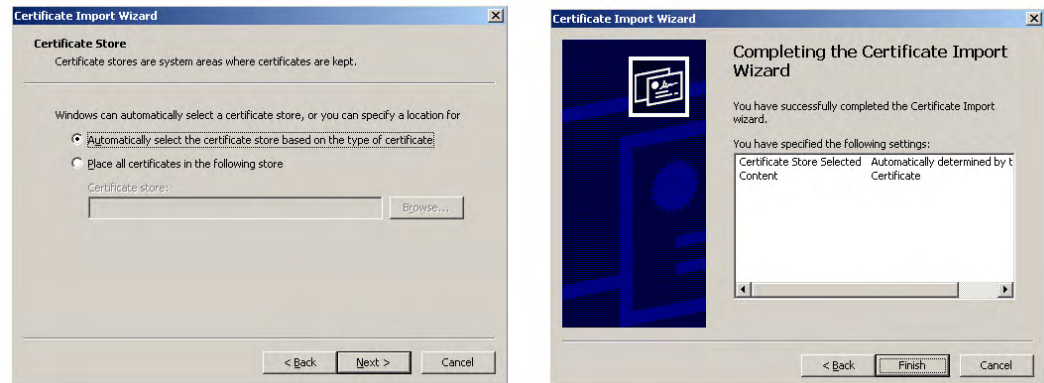

FIG. 73 Certificate Import Wizard- storing the certificate
- Click **Next** to automatically use the default certificate store settings and locations (FIG. 73).